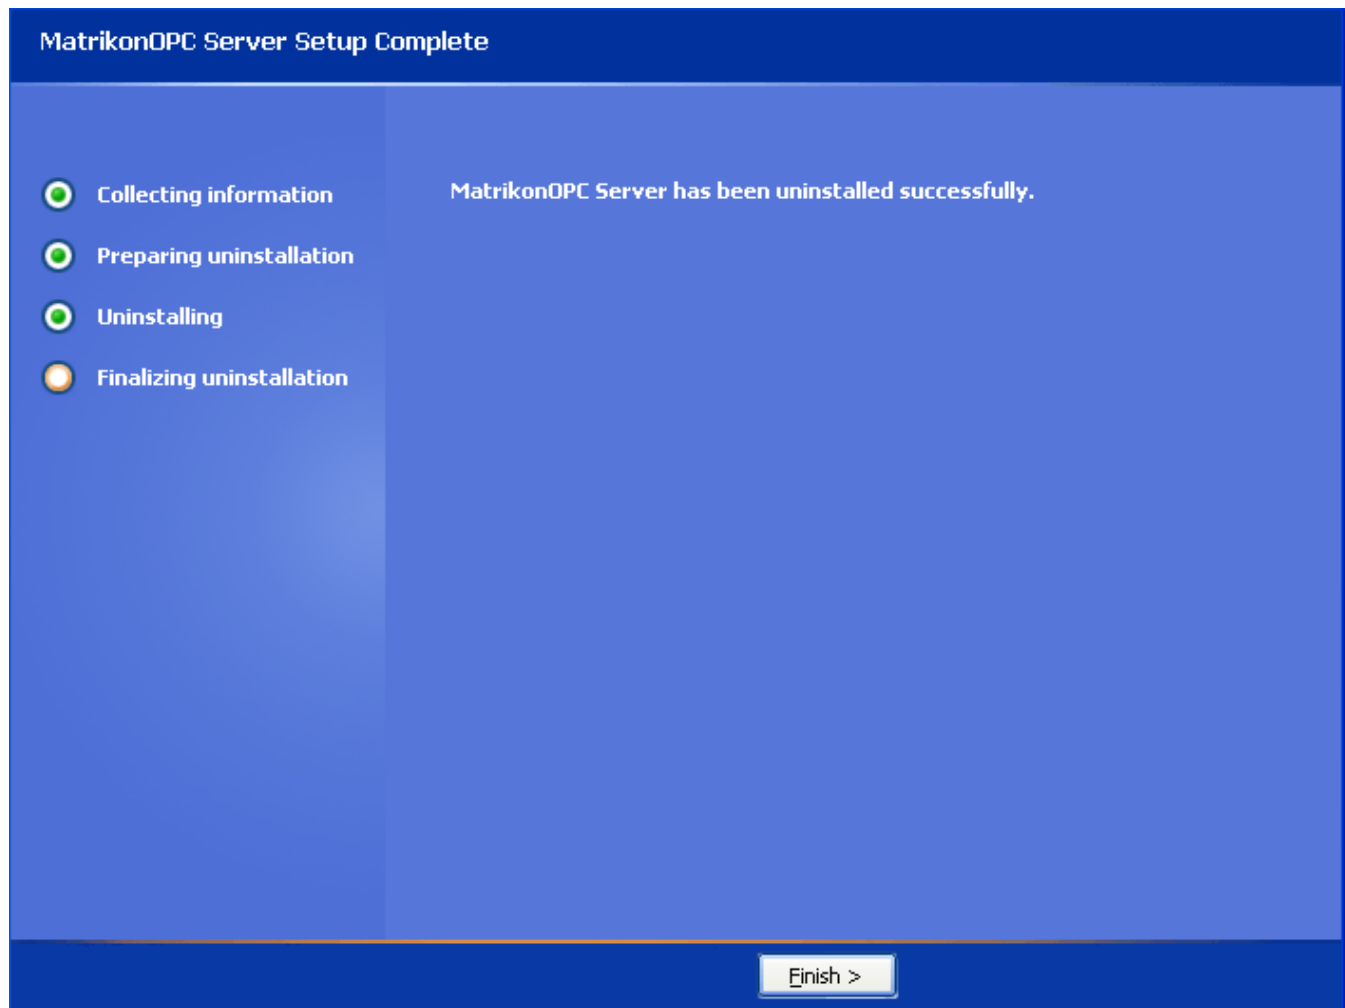

Figure 77 - MatrikonOPC Server for Vestas Setup Complete Screen
11. When the un-install has finished, the **MatrikonOPC Server for Vestas Setup Complete** screen (Figure 77) appears stating that MatrikonOPC Server for Vestas was successfully un-installed.